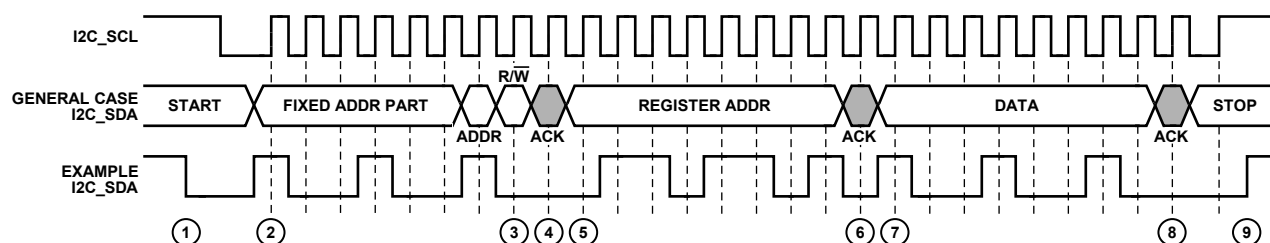

Figure 28. I2C Write Procedure
To write data to the AD8192 register set, an I2C master (such as a microcontroller) needs to send the appropriate control signals to the AD8192 slave device. The signals are controlled by the I2C master unless otherwise specified. For a diagram of the procedure, see Figure 28. The steps for a write procedure are as follows:
- Send the write indicator bit (0).
- Send a stop condition (while holding the I2C\_SCL line high, pull the I2C\_SDA line high) and release control of the bus to end the transaction (shown in Figure 28).